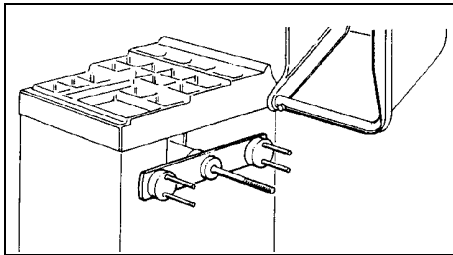

fig.11
- **Fig. 11** shows the **motorcycle flange** fixing system.